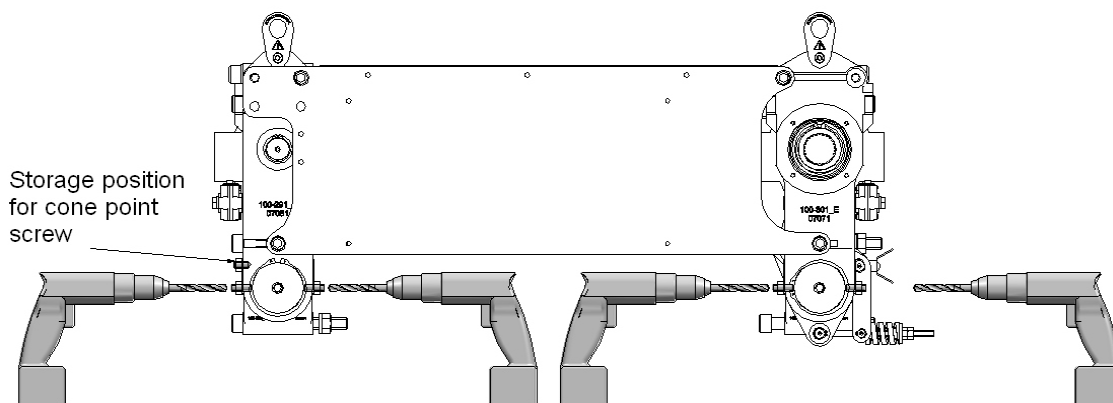

Figure 12 – Setting the Low Headroom Legs
- Using a 10mm diameter drill, drill a full cone of 10mm diameter into both legs at four positions (see Figure 12).